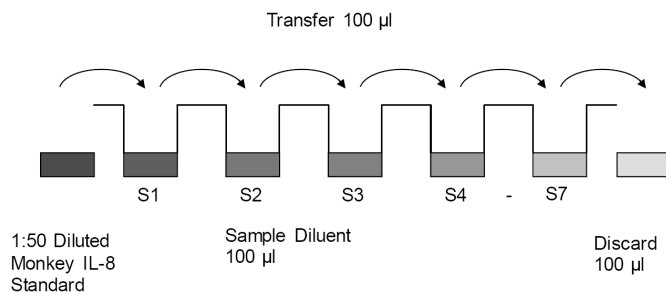

Fig. 6 Dilute standards - microwell plate
5. Repeat serial dilutions 5 more times thus creating the points of the standard curve (see Figure 6).
Add 100 µL of Sample Diluent in duplicate to all standard wells. Pipette 100 µL of prepared standard (see Preparation of Standard “Monkey IL-8 standard” on page 3, concentration = 2500 U/mL) in duplicate into well A1 and A2 (see Table 1 on page 4). Mix the contents of wells A1 and A2 by repeated aspiration and ejection (concentration of standard 1, S1 = 1250 U/mL), and transfer 100 µL to wells B1 and B2, respectively (see Figure 6). Take care not to scratch the inner surface of the microwells. Continue this procedure 5 times, creating two rows of monkey IL-8 standard dilutions ranging from 1250 to 19 U/mL. Discard 100 µL of the contents from the last microwells (G1, G2) used.